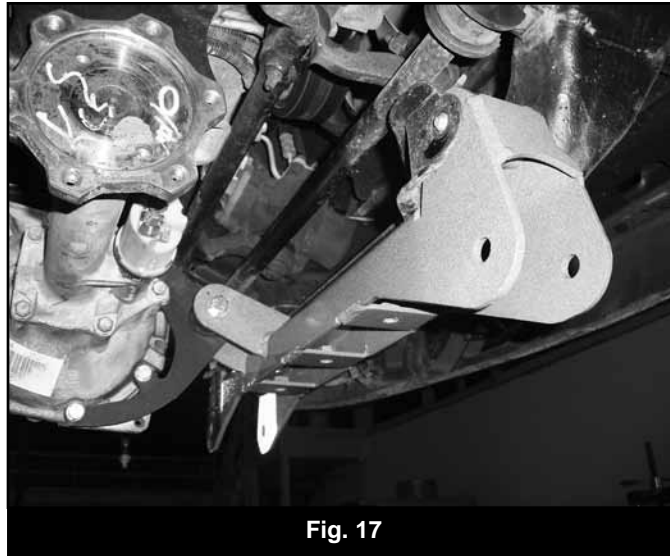

Fig. 17
35. Align the new front differential housing mount in the front crossmember tabs. Attach with a 9/16" x 4-1/2" bolt, nut, and washers from bolt pack #567 (Fig 17).